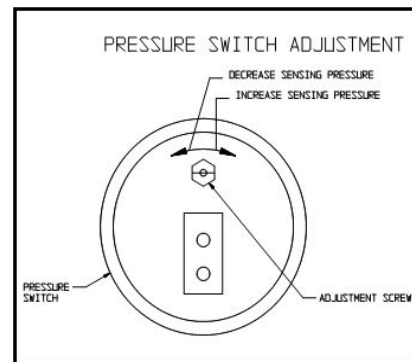

Figure 19
1. The pressure switch must be mounted in the vertical position to maintain maximum sensitivity and removed from any heat source. (See Figure 19)
Follow appliance manufacturer's instructions, light the appliance and after the appliance has operated a sufficient time to establish stable combustion, adjust pressure switch sensitivity by turning pressure switch adjustment screw "clockwise" (See Figure 19) until burner feed operation stops. Then turn the adjustment screw "counter-clockwise" until burner feed starts operating. Turn the adjustment screw an additional 1/4 to 3/4 of turn "counter-clockwise" more to ensure adequate switch adjustment. See page 8.